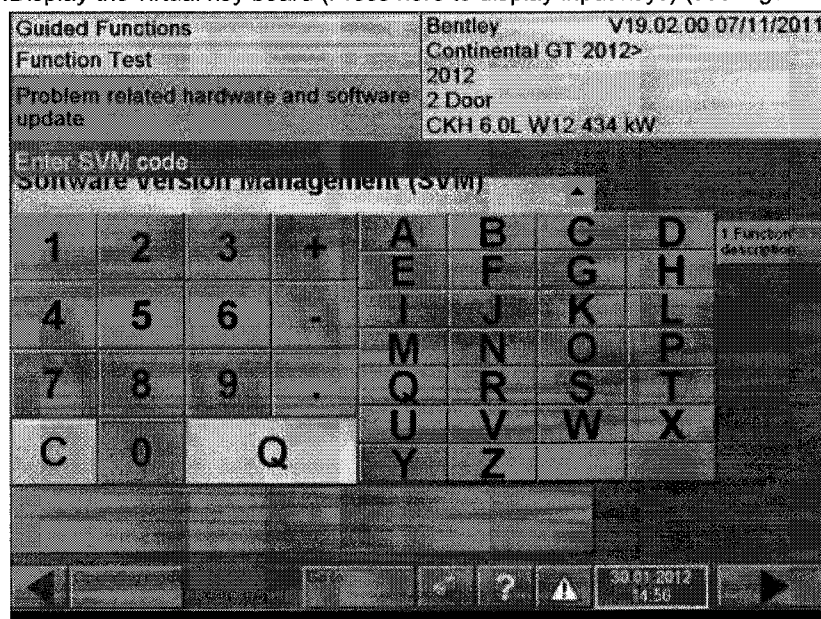

Figure 16
16. Enter the correct **SVM code** for the tyre type that is to be used (see Figure 16 and 16A)
8. Allow the system to restart; this may require the ON/OFF button to be pressed (see Figure 16). The restart will be complete after two minutes